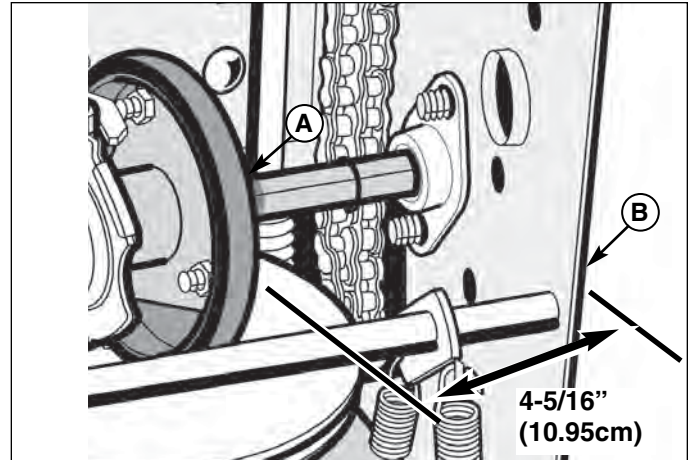
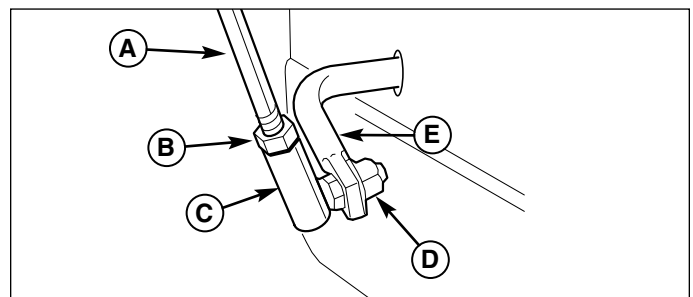

Figure 21. Friction Disc Measurement
Figure 22. Speed Selector Linkage
5. Note the position of the friction disc (A, Figure 21). The correct distance from the right side of the friction wheel to the outside of the frame is 4-5/16" (10.95 cm). If the friction disc is not in the correct position, adjust as follows.
7. Loosen the jam nut (B, Figure 22).
8. Remove locknut (D).
9. Move the friction disc (A, Figure 21) to the correct distance, 4-5/16" (10.95 cm).
10. Turn the ball joint (C, Figure 22) until it is aligned with the mounting hole in the shifter rod (E). When aligned, attach the ball joint (C) to the shifter rod (E) and tighten the jam nut (B).